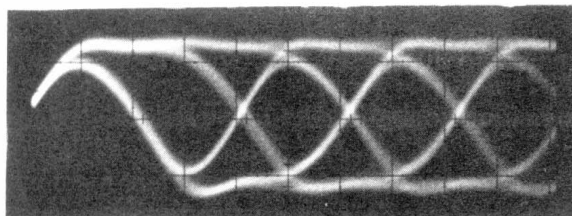

Figure 5 - Eye Pattern at VOL/SQ HI
4. Connect an oscilloscope to VOL/SQ HI (IFAS Board terminal 11 in the receiver) and adjust the oscilloscope display to show an eye pattern as shown in Figure 5.